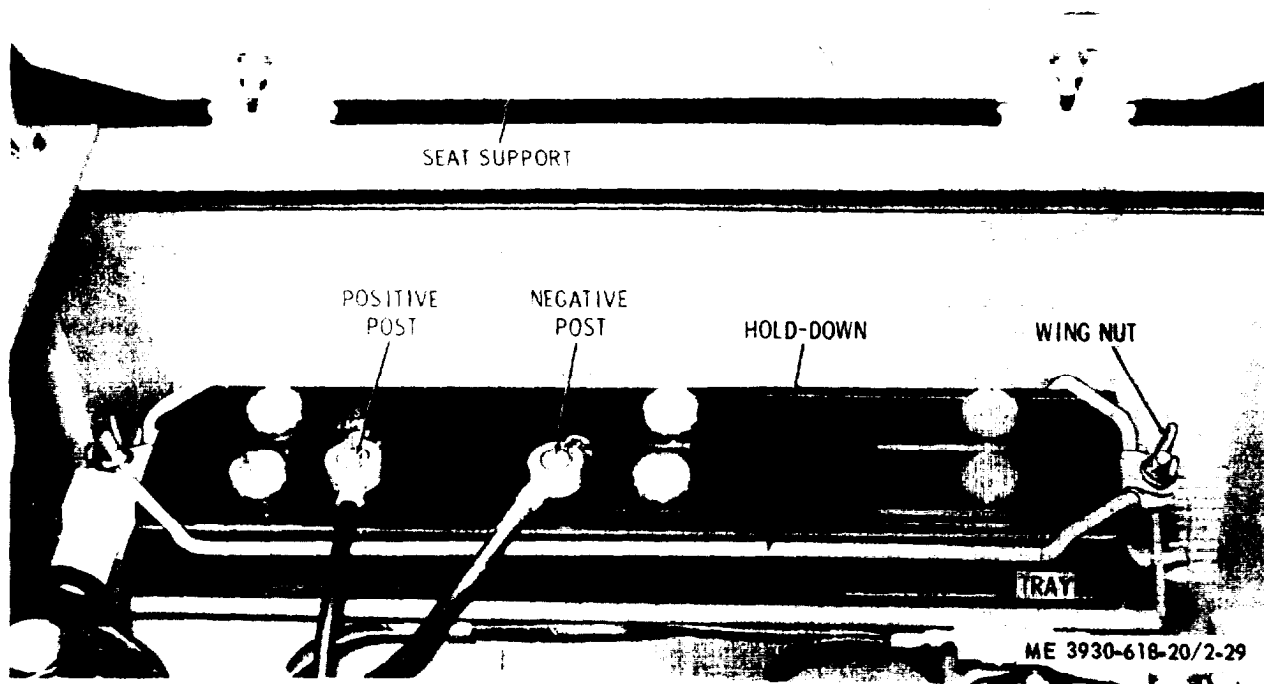

Figure 2-29. Battery and cables, installed view.
a. *Removal.* Refer to figure 2-29 and remove the battery as follows:
(1) Remove the operator's seat.
(2) Remove the wingnuts from the holddown studs and remove the battery holddown.
(3) Remove both cables from the battery posts.